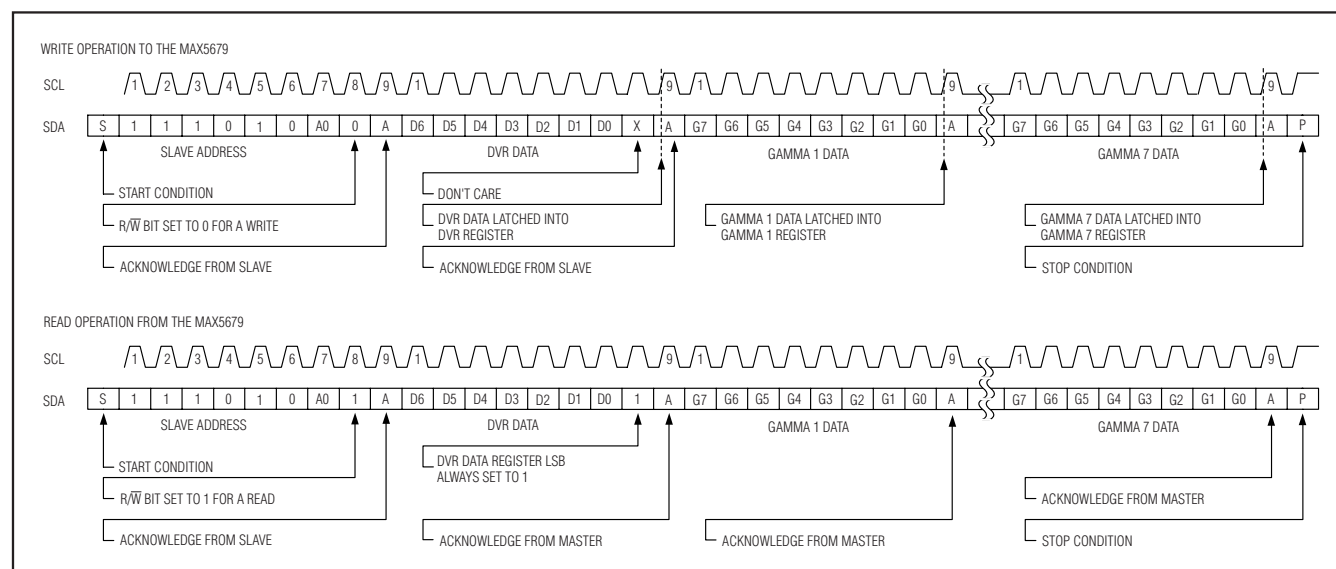

Figure 6a. Mode 1 (MAX5678 Compatible Mode)
mode 1 and mode 2. See Figures 6a and 6b. In mode 1, the data received by the MAX5679 consists of 9 bytes defined as follows: slave address, DVR data, and gamma 1 data through gamma 7 data. The DVR data is stored in the DVR DAC register, while the gamma data is stored in the gamma DAC registers as defined in Table 2a. A STOP condition after gamma 7 data is received determines the mode to be mode 1 (MAX5678 compatible mode).
The DVR register stores the 1st data byte transmitted to the MAX5679 following a START condition and the device slave address when a write operation is performed (Figures 6a and 6b). The DVR register sets the code for the DVR DAC and controls the operation of the SET and DVR outputs. The DVR DAC is a 7-bit DAC with the least significant bit (LSB) of this register as a don't-care bit (Table 3). When performing a read from the MAX5679, the DVR register data is the first byte to be output by the device following a START condition and the slave address. A read from the DVR register always returns an LSB value of 1.
*Functions* section. When a read from the MAX5679 is performed, the contents of the gamma registers are output sequentially after the DVR register data (Figures 6a and 6b). If the MAX5679 is operating in mode 1, issue a stop condition after receiving the 7th gamma byte. If the device is operating in mode 2, issue a stop condition after receiving the 14th gamma byte.